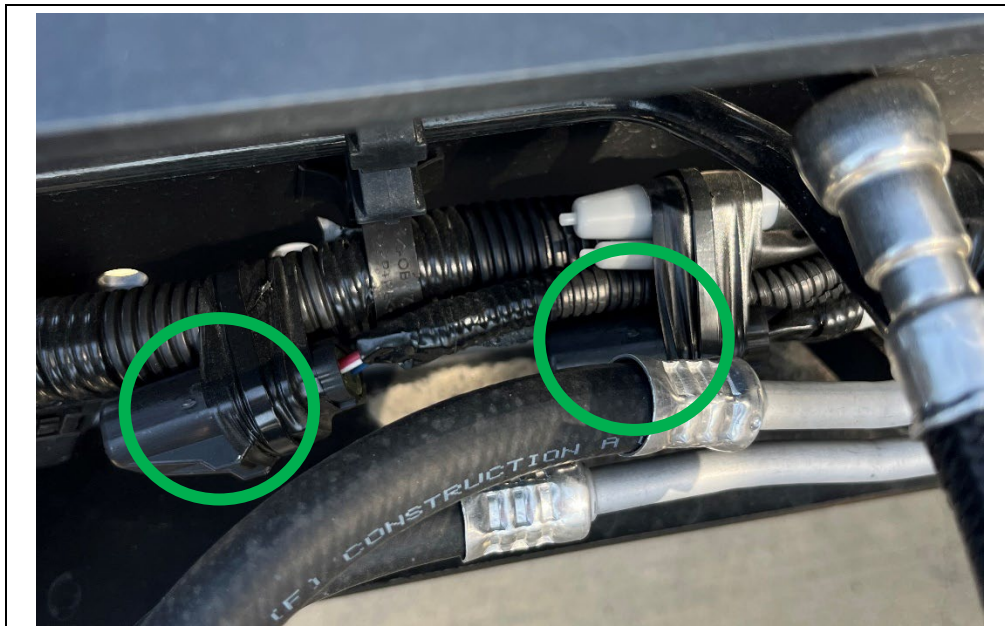

Figure 2 (NPR/NPRHD)
5. Locate the inline ignition fuse holders J-432 and J-433. Cut and remove two (2) zip ties and tape securing the fuse holders. (See Figures 2 & 3.)